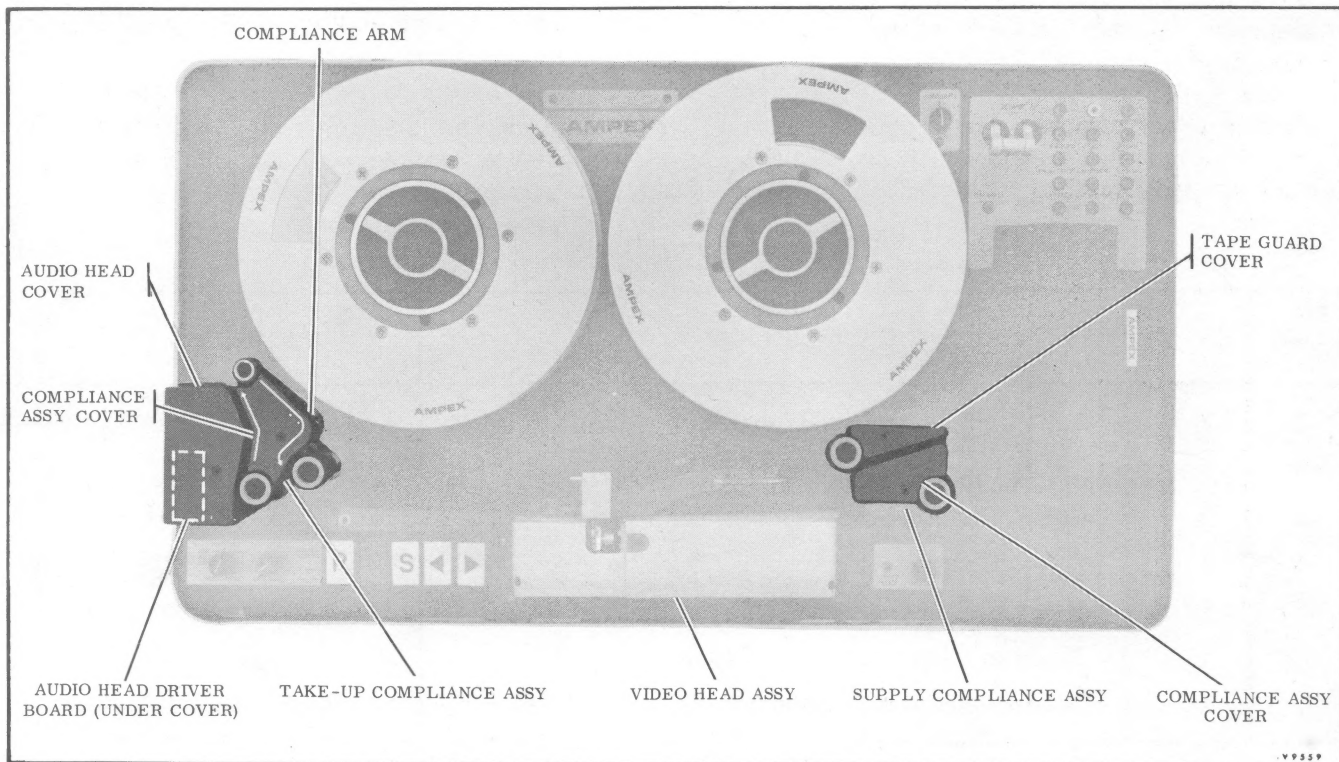

Figure 2-1. Location of Compliance Arm Assembly
- c. Unfasten the screws and remove the four covers from the existing compliance arm assemblies, and also remove the audio head driver board (see Figure 2-1).